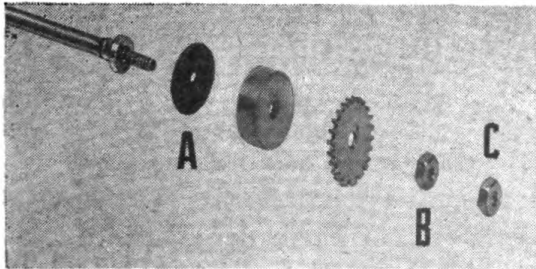

Figure 193
(3) Inspect valve disc ("A" Figure 193) and replace if worn. When assembling valve, hold nut ("B") while tightening lock nut ("C") to prevent too much pressure on valve disc ("A").